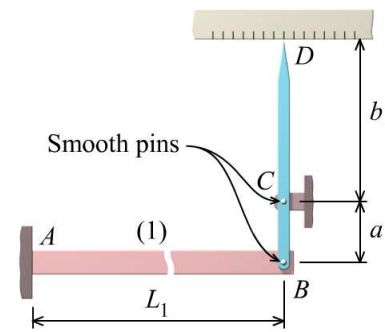

FIGURE P2.21
P2.21 The simple mechanism shown in Figure P2.21 can be calibrated to measure temperature change. Use dimensions of $a = 25$ mm, $b = 90$ mm, and $L_1 = 180$ mm. The coefficient of thermal expansion for member (1) is $23.0 \times 10^{-6}/^\circ\text{C}$. Determine the horizontal displacement of pointer tip D of the mechanism shown in response to a temperature increase of 35°C . Assume that pointer BCD is not affected significantly by temperature change.